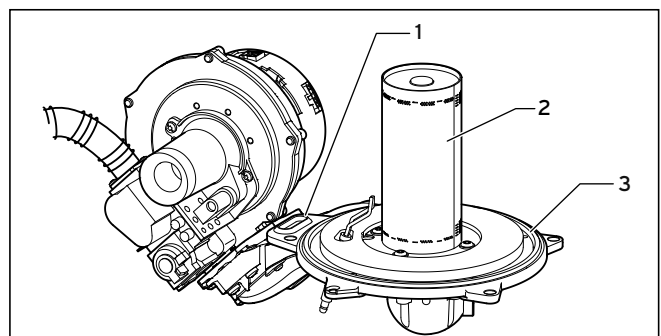

Fig. 8.5 Checking the burner
- Renew the seals (1) and (3) in the burner door (see Fig. 8.5).